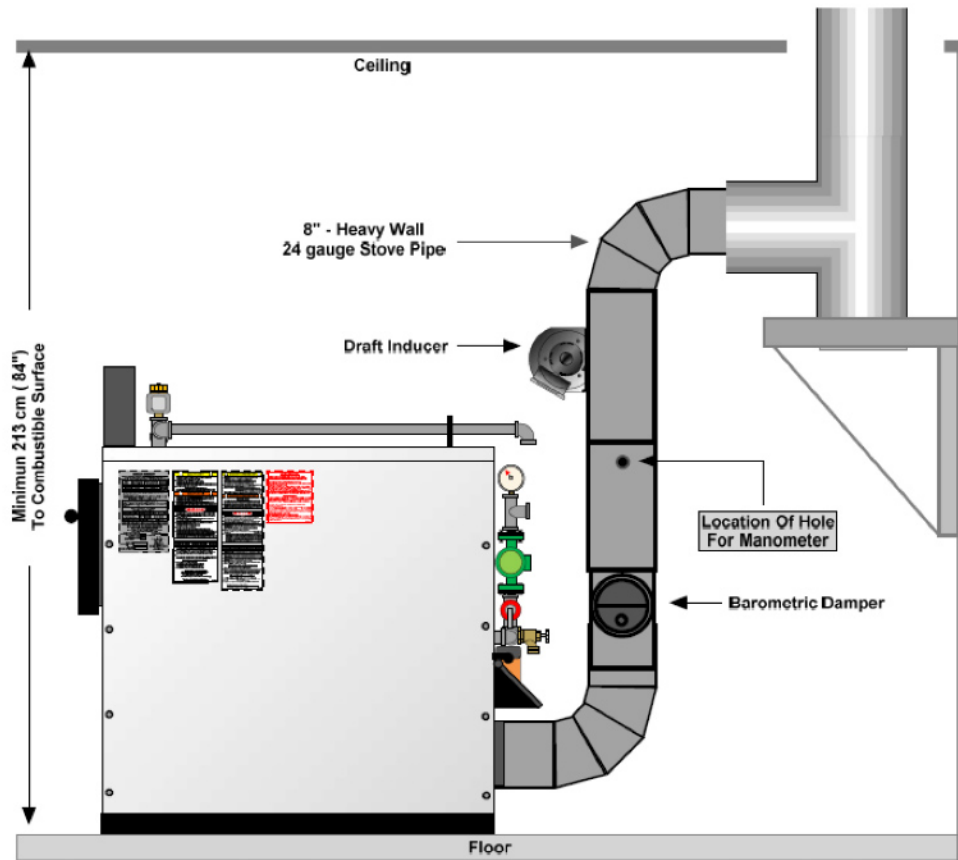

Figure 5 – Location of Hole for Barometric Damper
- 2) Insert the Manometer into the hole that was previously drilled in the stove pipe and observe the measurement of flue draft. (See “Figure 5”) **The Seton Furnace requires a draft of .05” to .07” Water Column (WC) measured with a Manometer.**